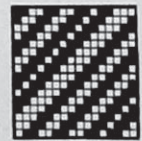

Fig. 5
*Weave:* See Fig. 5; repeat 16 by 16; 16-harness straight draw.